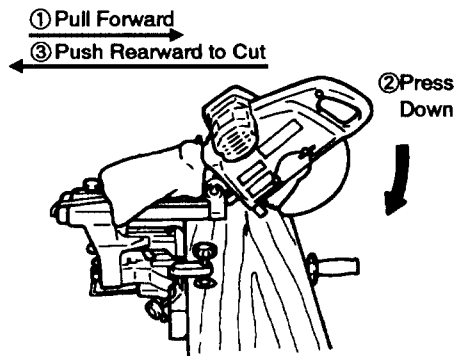

Fig. 23
(1) Workpieces up to 3- 11/32"(85mm) high and 12- 9/32"(312mm) wide : Loosen the slide securing knob, grip the handle and slide the saw blade forward. Then press down on the handle and slide the saw blade back to cut the workpiece as indicated in Fig. 23. This facilitates cutting of workpieces of up to 3- 11/32"(85mm) in height and 12- 9/32"(312mm) in width.
(2) Workpieces up to 3- 35/64"(90mm) high and 11- 39/64"(295mm) wide : Workpieces of up to 3- 35/64" (90mm) in height and up to 11- 39/64"(295mm) in width can be cut in the same manner as described in paragraph 6- (1) above.
⚠ WARNING: * For slide cutting, follow the procedures indicated above in Fig. 23. Forward slide cutting (toward the operator) is very dangerous because the saw blade could kick upward from the workpiece. Therefore, always slide the handle away from the operator.